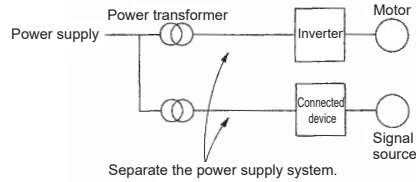

Fig. App 2.19 Separating power cables
- (a) Separate the power cable from the connected devices. (Refer to Fig. App 2.19.)